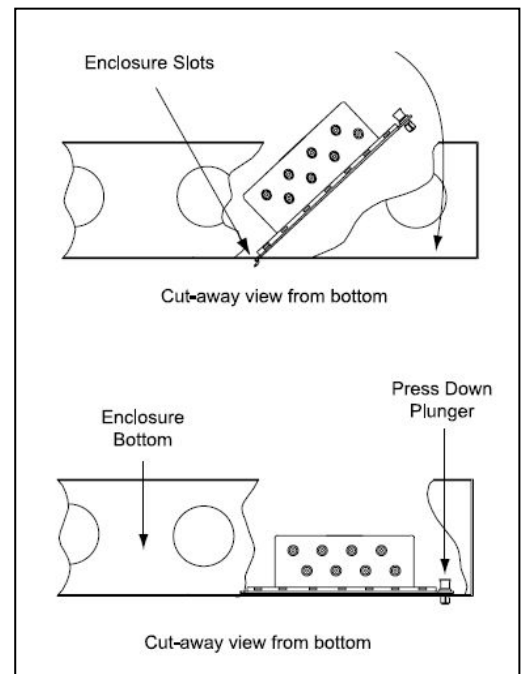

Figure 2
A. Mounting into an On-Q enclosure (see **Figure 2**)